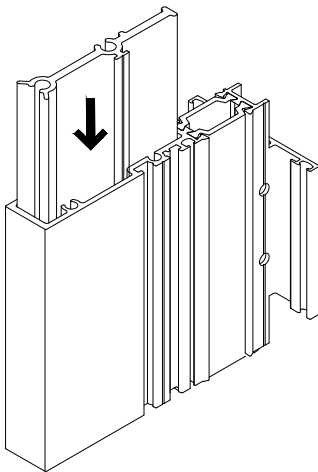

FIG. 4
- Slide the reinforcement into the vertical mullion from one end. **See FIG 4.**